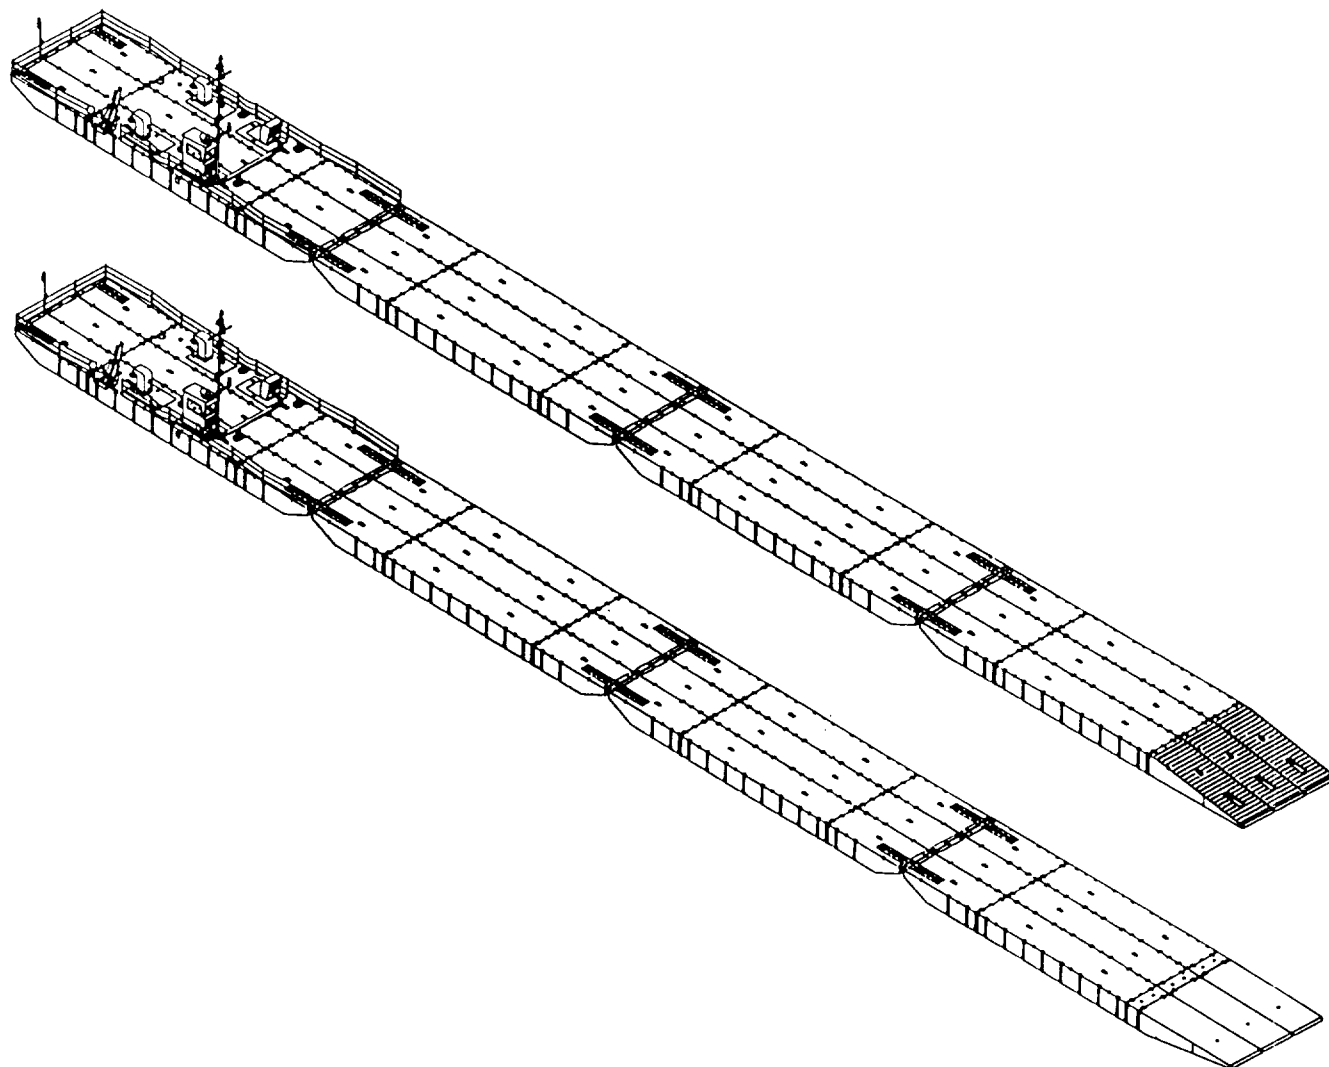

Figure 1-1. MCF (Full Arrangement).
- c. The MCF is used to transport containerized, rolling and breakbulk cargo from ocean going vessels in the stream to the beach. The unassembled components of the causeway ferry are transported in ISO pack configuration by sea T-ACS, Lighter Aboard Ship (LASH), Fast Sealift Ship (FSS) and/or commercial container ships to the operational area and assembled after arrival. (Components can also be transported by rail and motor vehicle over improved and unimproved roads.) Upon arrival in the operational area the MCF can be assembled on deck, on land, or in water of sea-state "0". The MCF is designed to augment the Modular Causeway System (MCS) in applications where powered assemblies are required. The system utilizes the Navy "flexor" and shear connector system for causeway end-to-end connection, and is interchangeable with existing Navy Lighter (NL) and Army MCS hardware at the sectional level. The MCF modules are interchangeable with existing Army MCS modules. The MCF modules are ISO container compatible and are also outfitted with ISO corner fittings.
**1-9 LOCATION AND DESCRIPTION OF MAJOR COMPONENTS.** The MCF system (Figure 1-1) consists of one Powered Section, two Intermediate Sections and one Combination Beach/Sea End Section. The Powered Section can be broken down to the Propulsion Modules, the Center Module (non-powered), End Rake Modules, Connectors, the Operator's Cab, the Intake Plenum, Exhaust Plenums, Navigation Masts, the Module Electrical Interconnect, the Anchor Board and Hand Rails. The Intermediate Sections can be broken down to Center Modules (non-powered), End Rake Modules and Connectors. The Combination Beach/Sea end Section can be broken down into Center Modules (non-powered), End Rake Modules, Connectors and Beach End Modules. When operating in the optional configuration, with the Beach End Modules in the inverted position, P3 Adaptor Modules are included in the breakdown increasing the length of the completely assembled MCF approximately 329 feet.